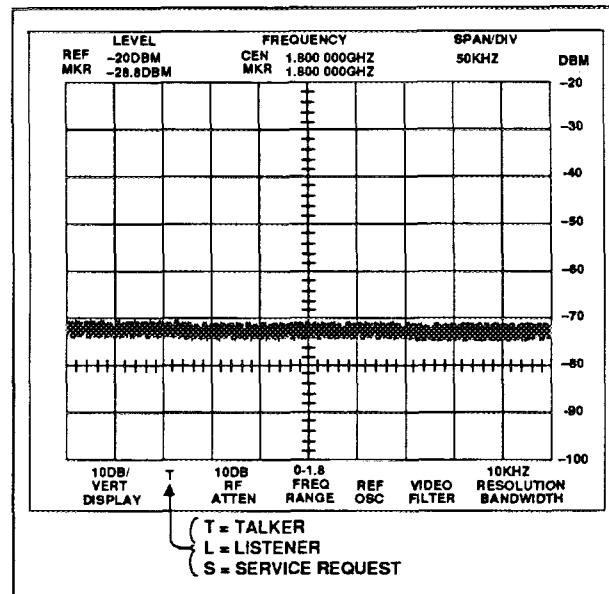

Figure 1-2. Status of active GPIB functions.
A single character appears in the lower CRT readout when the spectrum analyzer is talking (T), or listening (L) (see Figure 1-2). Two characters will appear in this location if the instrument is talking or listening and also requesting service (S), or if the instrument is in both the talk-only and listen-only modes.